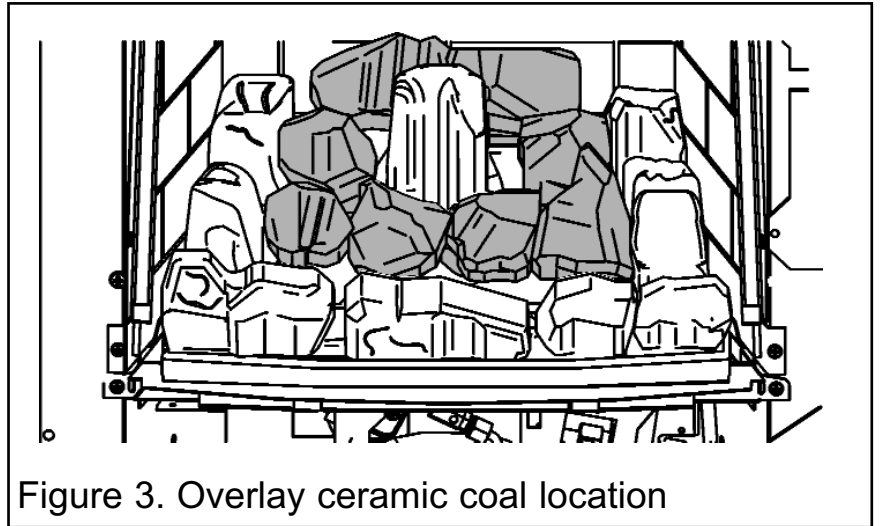

Figure 3. Overlay ceramic coal location
3. Locate the overlay ceramic onto the rear ceramic as in figure 3. Locate the overlay ceramic so that the row of four coals are to the front and the row of two coals are to the rear.